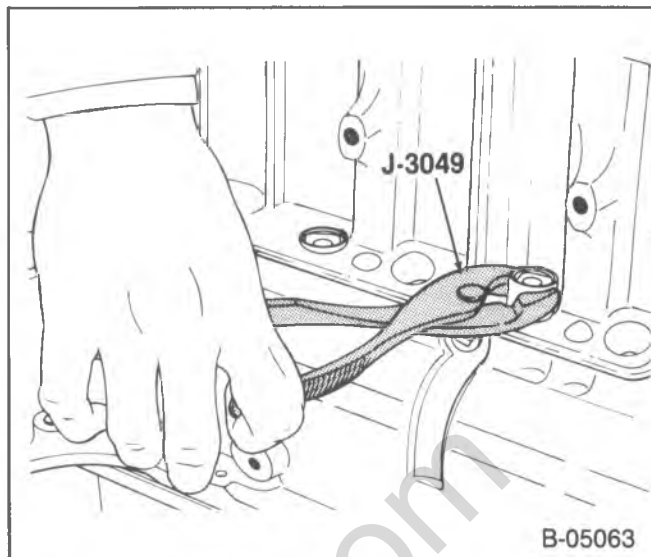
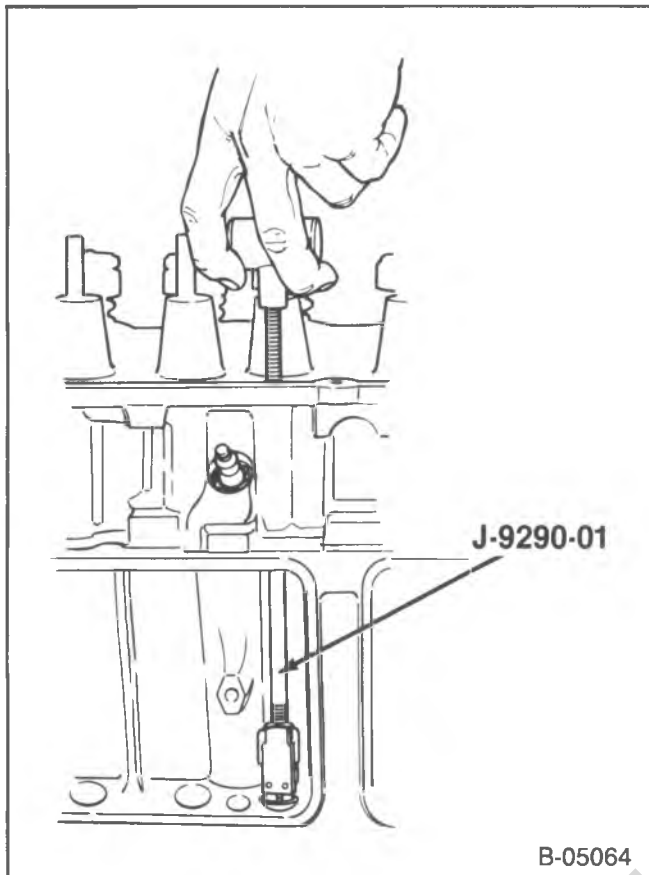

Figure 8—Removing The Hydraulic Lifter
Figure 9—Removing The Hydraulic Lifter
Remove or Disconnect (Figures 8 and 9)
- A stuck hydraulic lifter can be removed using J-3049 (figure 8 or J-9290-01 (figure 9).